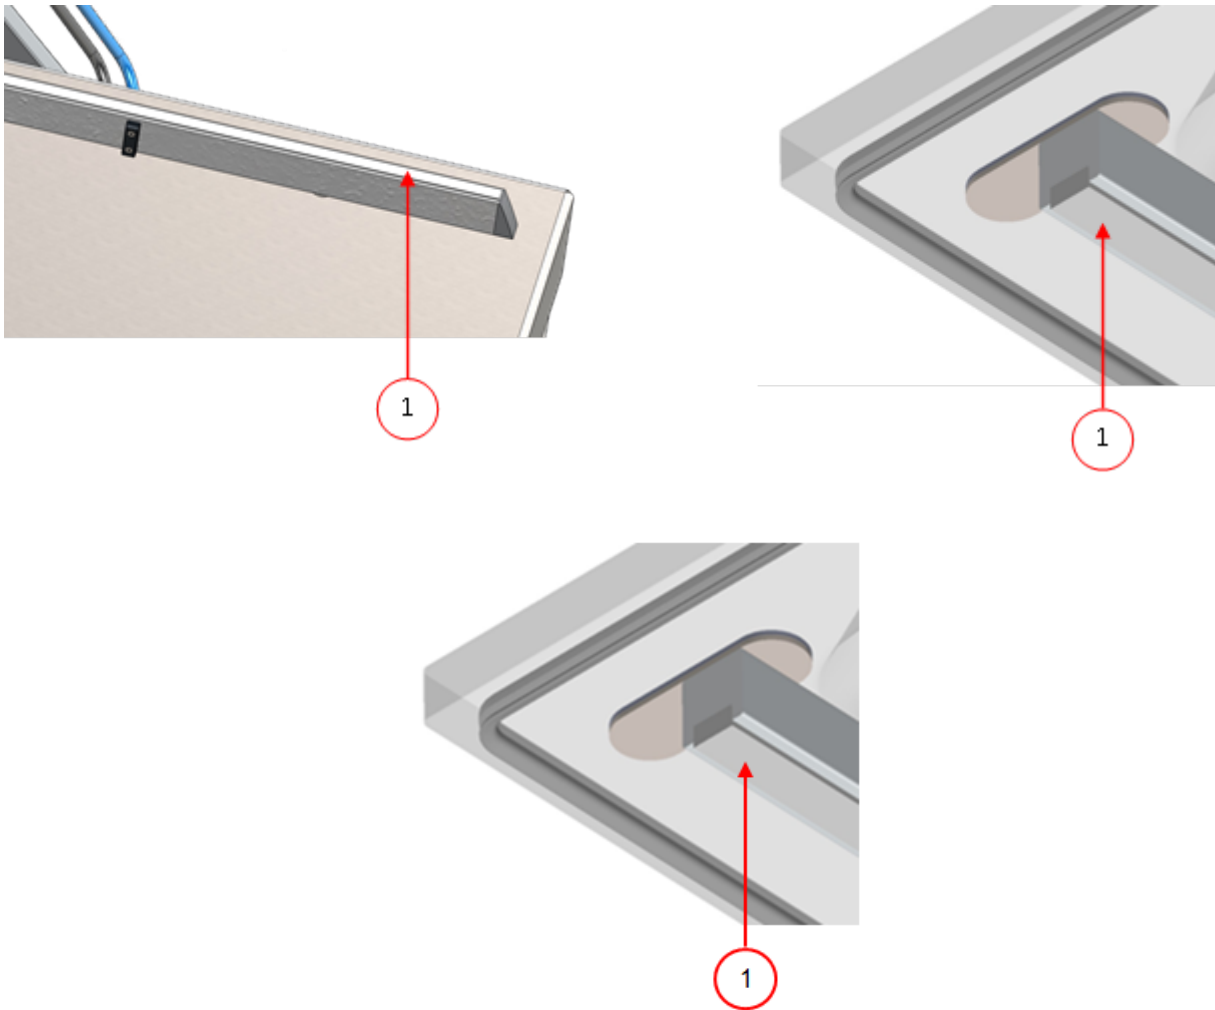

Figure 27: Replacing the Silicone Rubber of the Silicone Holders
1. Pull the old silicone rubber from the holder, see *Figure 27: Replacing the Silicone Rubber of the Silicone Holders* on page 67.